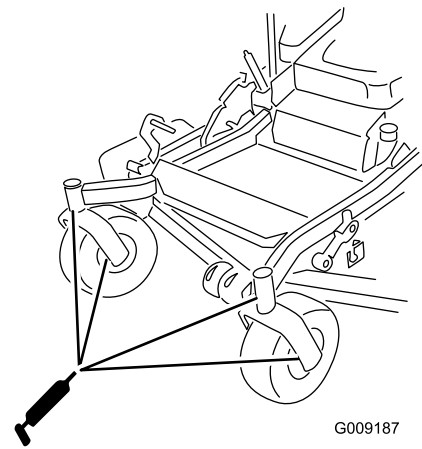

Figure 43
9. Remove the grease zerk in the hole. Install the hex plug and dust cap (Figure 43).
10. Grease the caster wheel bearings (Figure 43).